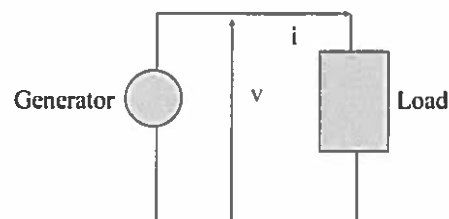

Figure 1.1: Single phase AC circuit
1. a) Consider a single phase AC circuit shown in Figure 1.1. Expressions for generator voltage and current are given by: